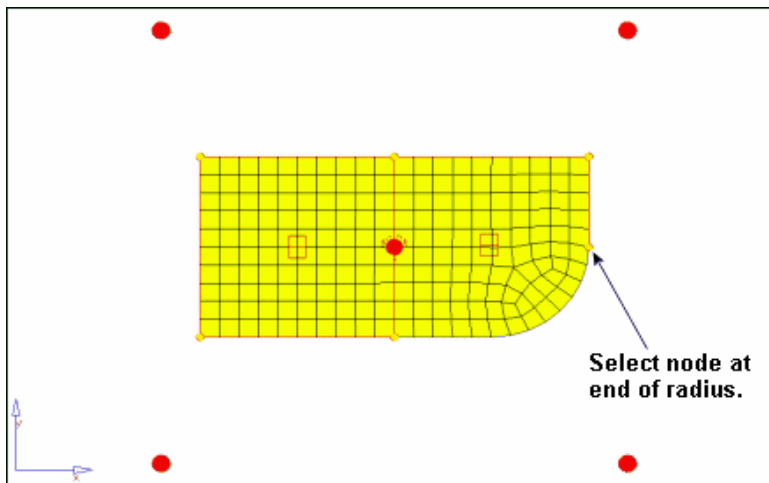

Figure 3: Node selection to split the edge domain of the radius
5. Select the node on the positive Y-axis end of the radius, as indicated in the image Figure 3.